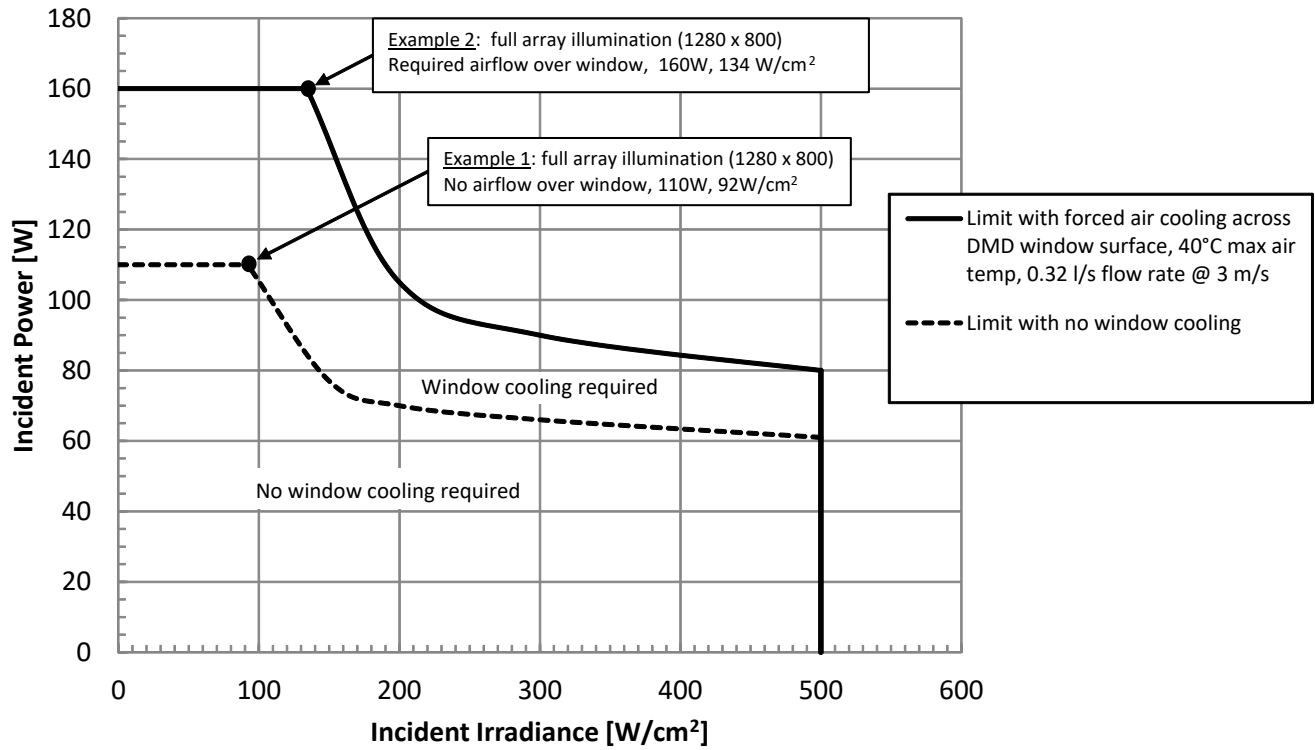

Figure 1. Maximum Recommended Illumination Incident Power vs Incident Irradiance
(16) The average over time (including storage and operating) that the device is not in the 'elevated dew point temperature range'.
(17) Limit exposure to dew point temperatures in the elevated range during storage and operation to less than a total cumulative time of CT_{ELR} .
(18) See Figure 1 for allowable combinations of illumination power vs illumination power density. 160W total power is achievable only by full array illumination. 500 W/cm² is only achievable through partial array illumination. Some combinations of illumination power and power density require cooling of the window with forced air as defined by Figure 1. Refer to the application note DLP® High Power Thermal Design Guide: Focus on High Power NIR Laser Illumination for additional details.